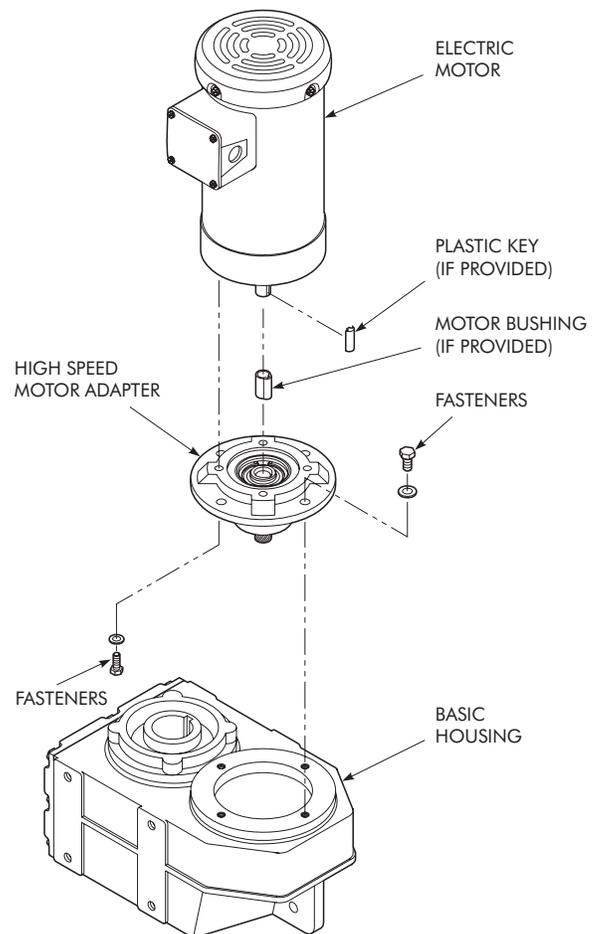

FIGURE 3
PROCEDURE M — Figure 3
1. Place basic housing on a workbench so that high speed end is facing up as illustrated in Figure 3. If necessary, block housing so that it is stable and level.